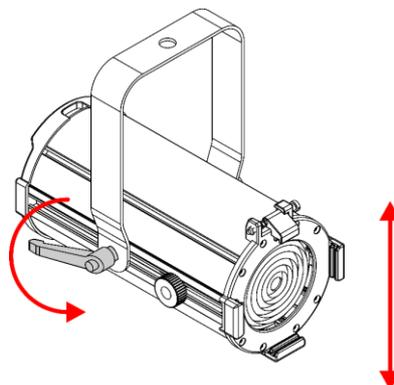

Fig. 01
- 01) Turn the **adjustment handle (06)** counterclockwise to release it.
- 02) Tilt the device at the desired angle (see Fig. 01).
- 03) Turn the **adjustment handle (06)** clockwise to tighten it. Make sure that the device cannot move freely after the **adjustment handle (06)** is tightened.